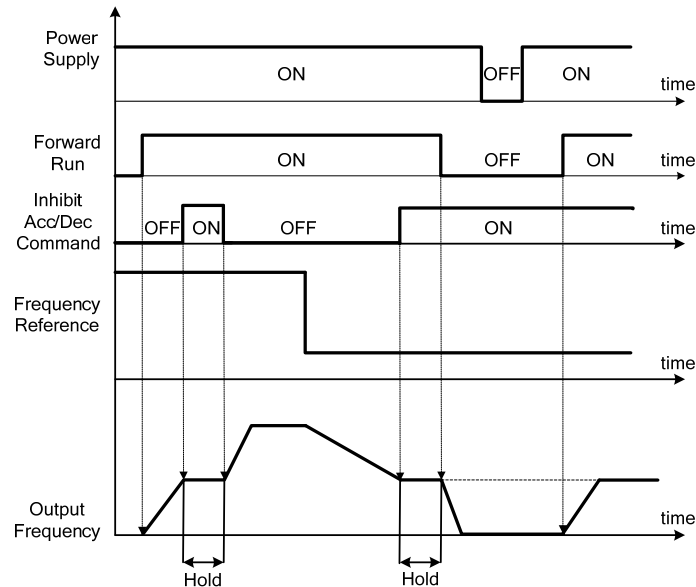

Figure 4.3.21 Inhibit acceleration / deceleration command operation
(12) Acceleration/deceleration 1 selection (03-0X=10)
(13) Inhibit Acceleration/deceleration command (03-0X=11)
- Operation of inhibit Acceleration/deceleration function, please refer figure 4.3.21 °